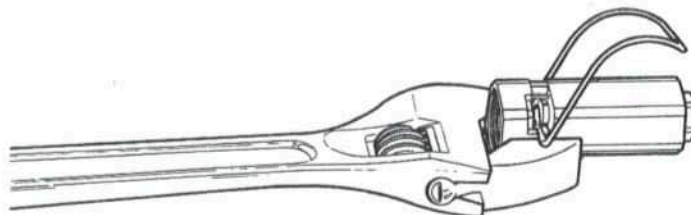

Figure 3
23. Using a 12 inch Crescent wrench adjusted so that the demand valve body will fit between the jaws of the wrench, but the lever (Item 57) will not (See Fig. 3), press down on demand valve body to remove lever. Next remove the demand valve (Item 43), O-ring (Item 44), spring (Item 45), and washer (Item 52) (3 recommended) from the demand valve body. Discard used O-ring.